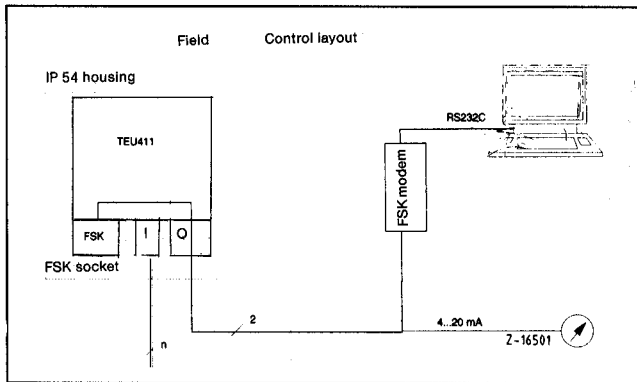

Fig. 12 Transmitter with FSK connection at output
- Fig. 12: for transmitter (IP 54 field case) with FSK connection at output,